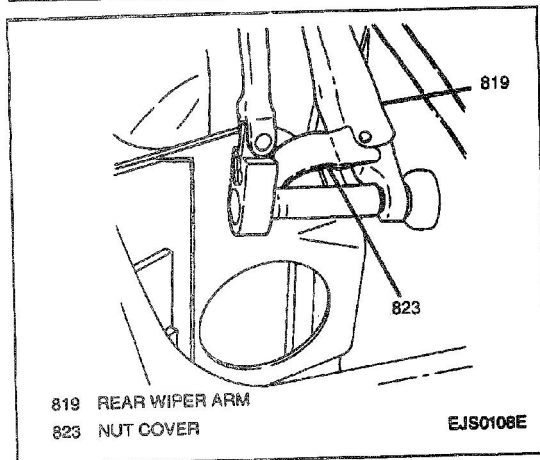

Figure 12—Removing Rear Wiper Arm Retaining Nut
3. Rear wiper arm retaining nut from rear wiper arm (Figure 12).
4. Rear wiper arm retaining nut from rear door wiper arm (Figure 12).